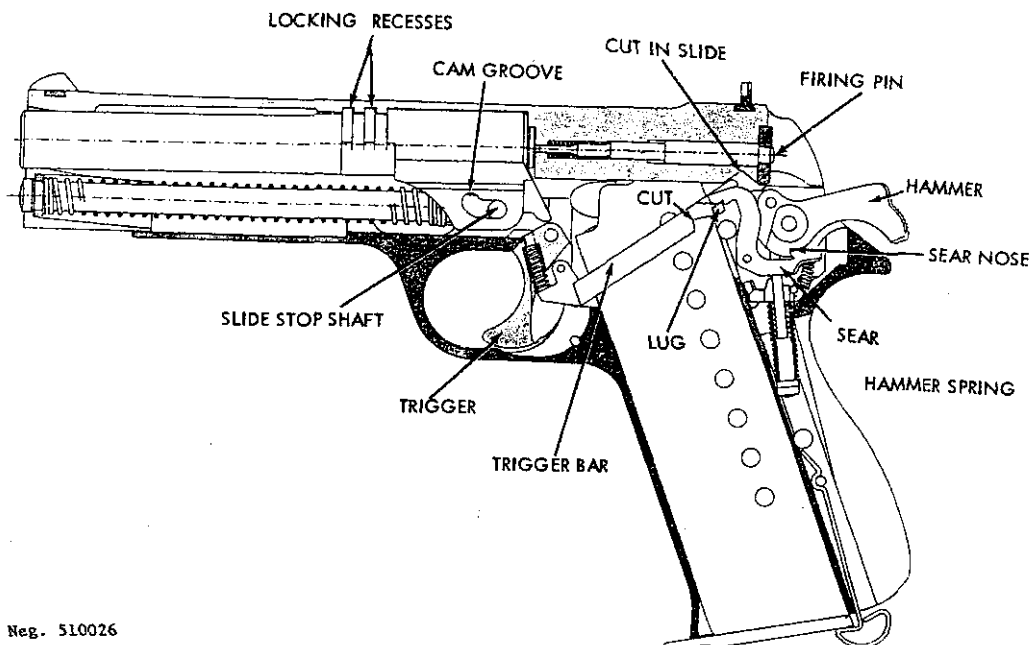

Figure 27. M49 pistol, section.
- a. The Swiss M49 pistol is recoil operated (refer to paragraph 5a). When the weapon is loaded and the hammer is cocked, pressure on the trigger causes it to rotate about its pin and move the trigger bar (fig 27) rearward. The rear end of the trigger bar moves into a cut in the slide, and a lug on the rear contacts the sear (fig 27) to cause it to pivot. The sear nose disengages from the hammer (fig 27) which, under the force of the hammer spring, swings forward and strikes the firing pin to fire the cartridge.
- b. The barrel and slide, locked together, recoil as a unit to compress the driving spring and rock the hammer back. The slide stop shaft fits into the cam groove on the barrel (fig 27) and, as
d. The driving spring forces the slide forward, and the feed rib drives the top cartridge out of the magazine and into the barrel. The slide drives the barrel forward, and the barrel cam, working on the slide stop shaft (fig 27), forces the barrel up into engagement with the locking ribs of the slide.
e. When the slide recoils, it depresses the rear end of the trigger bar (fig 27). The trigger bar lug then disengages from the
sear; the sear, powered by the sear spring, snaps against the hammer. The hammer is rocked back by the recoil of the slide and, upon counterrecoil, is held cocked by the sear engaging with the sear notch of the hammer (fig 27).
g. The safety, when set to safe, has a shoulder that swings into a cut on the trigger bar (fig 27) and prevents rearward movement of the trigger bar. The weapon thus cannot be fired.